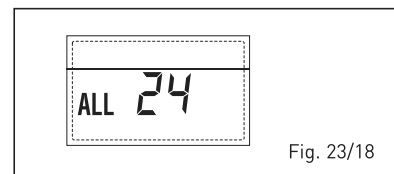

Fig. 23/18
– **ANOMALIA SONDA FERVIDOR SOLAR (S2) “ALL 25”** (fig. 23/19)